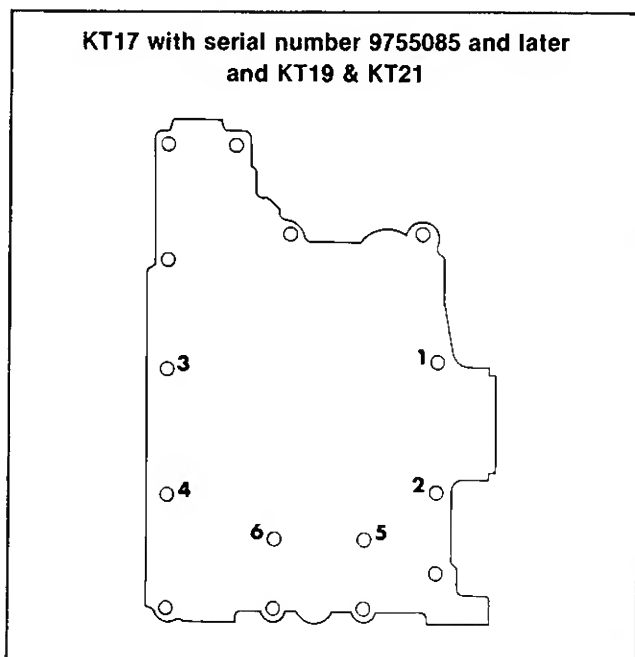

Figure 8-17. Crankcase Torque Sequence.
6. Install the fasteners and torque numbers 1 thru 6 in the sequence shown in Figure 8-17 to a preliminary value of approximately 100 in. lbs. (11 Nm-1.0 Kgm). Torque the remaining bolts to 100 in. lbs. (11 Nm, 1.0 Kgm) in the most expedient sequence.
7. **Engines with serial number of 9755085 or later**, torque fasteners 1, 2, 3 and 4 to 260 in. lbs. (29 Nm or 3.0 Kgm), and fasteners 5 and 6 to 200 in. lbs. (23 Nm or 3.3 Kgm) in the sequence shown in Figure 8-17. Torque the remaining fasteners to 200 in. lbs. (23 Nm or 3.3 Kgm) in the most expedient sequence.